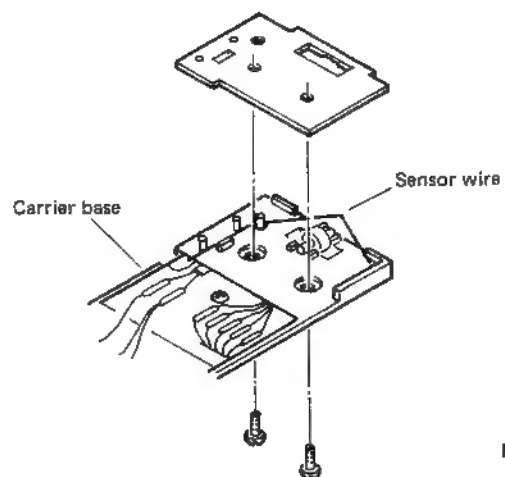

Fig. 9
### 5-(7) Stringing of sensor wire (Fig. 9)